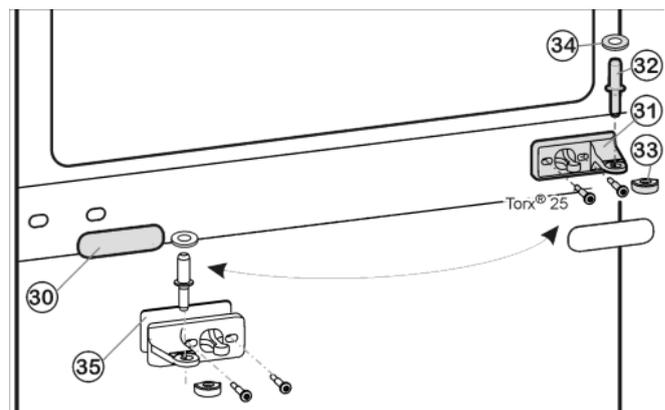
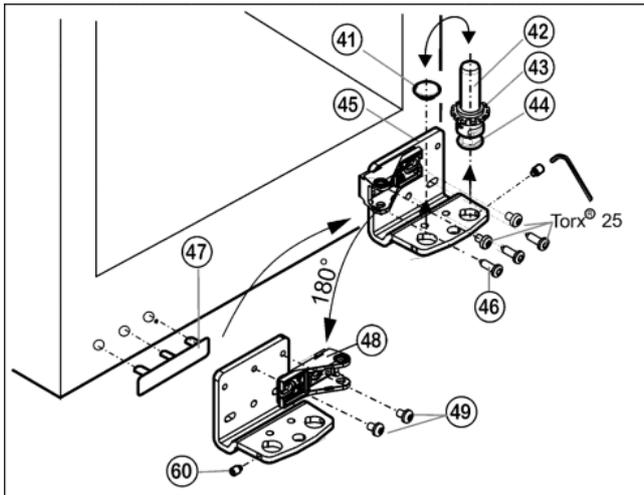

Fig. 11
Fig. 12
- ▶ Draw the middle bearing pin Fig. 11 (32) together with the washer Fig. 11 (34) out of the turn hinge and lower door.
- ▶ Remove the plastic cap Fig. 11 (33).
- ▶ Unscrew the middle turn hinge (2x Torx® 25). Fig. 11 (31)
- ▶ Carefully detach the cover panel Fig. 11 (30).
- ▶ Turn the middle turn hinge Fig. 11 (31) with the washer Fig. 11 (35) through 180° and screw it **firmly** into place on the new hinge side (**with 4 Nm**).
- ▶ Turn the cover panel Fig. 11 (30) through 180° and snap it into place again on the new handle side.
- ▶ Using the accompanying Allen key, unscrew the threaded pin Fig. 12 (60) by about 1 turn.
- ▶ Turn and lift out the bearing pin Fig. 12 (42) together with the washer Fig. 12 (43) and adjustable-height foot Fig. 12 (44).
- ▶ Lift out the stopper Fig. 12 (41).
- ▶ Unscrew Fig. 12 (46) the turn hinge Fig. 12 (45).
- ▶ Fully unscrew the threaded pin Fig. 12 (60) and screw it in on the opposite side, at the turn hinge, until it is flush outside with the turn hinge.
- ▶ Unscrew the bearing element Fig. 12 (48), turn it through 180° and screw Fig. 12 (49) it firmly back into place.
- ▶ Re-insert the stopper Fig. 12 (41) into the other hole.
- ▶ Carefully lift off the cover on the handle side Fig. 12 (47) and transfer it to the opposite side.
- ▶ Screw the turn hinge Fig. 12 (45) firmly into place on the new hinge side, possibly using a cordless screwdriver (with 4 Nm).
- ▶ Screw the bearing pin Fig. 12 (42) into place again, complete with washer and adjustable-height foot.
- ▶ Tighten the threaded pin Fig. 12 (60).
- ▶ Place the door from above onto the lower bearing pin Fig. 12 (42).
- ▶ Place the plastic cap Fig. 11 (33) back onto the middle turn hinge Fig. 11 (31).
- ▶ On the new hinge side, pass the middle bearing pin Fig. 11 (32) through the middle turn hinge Fig. 11 (31) into the lower door.
- ▶ Attach the washer Fig. 11 (34) to the middle bearing pin Fig. 11 (32).
- ▶ Place the upper door on the middle bearing pin Fig. 11 (32).
- ▶ If necessary, align the doors to the appliance housing by way of the two oblong holes in the bottom turn hinge Fig. 12 (45) and middle turn hinge Fig. 11 (31). To do so, unscrew the middle screw in the bottom turn hinge Fig. 12 (45).